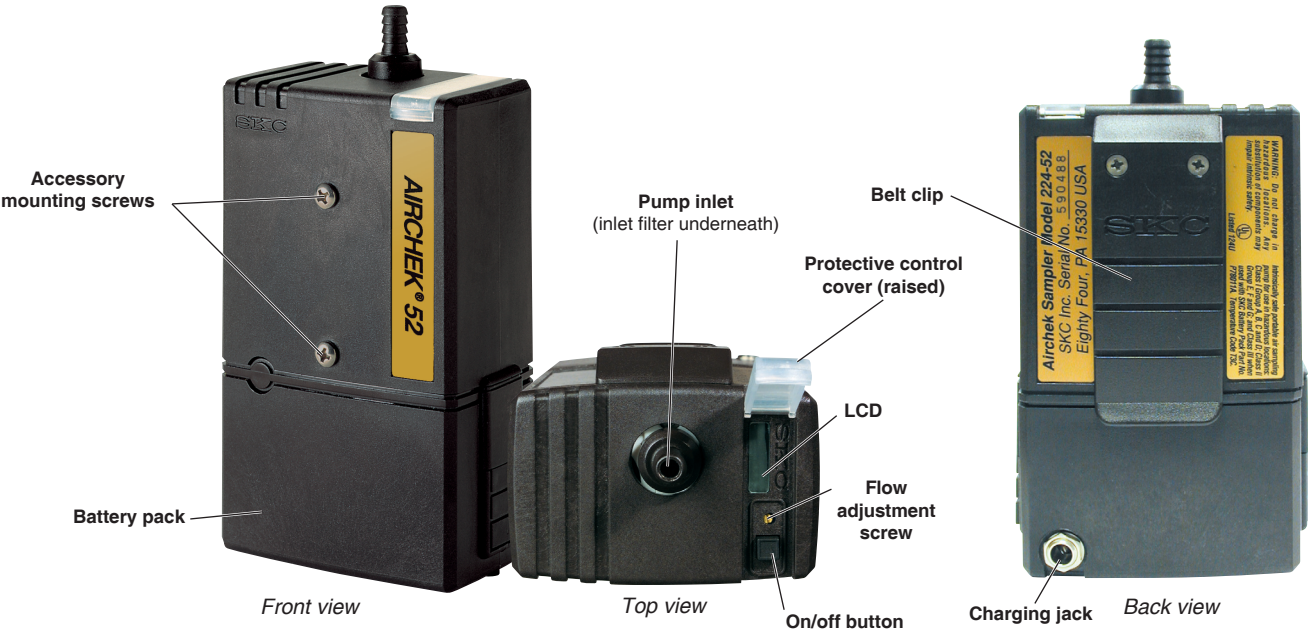

Figure 1. AirChek 52 Sample Pump
The AirChek 52 Sample Pump (Figure 1) is designed for rugged industrial use at flows from 5 to 3000 ml/min. Ideal for on-worker applications, use the AirChek 52 for short-term or full-shift sampling with sorbent tubes, impingers, cyclones, PPIs, or filter cassettes.
3. Insert the charging plug end of the cable into the jack on the back of the pump's battery pack (Figure 1).
4. Using a screwdriver, set the pump flow rate by turning the flow adjustment screw on top of the pump (*Figure 1*), **clockwise** to increase or **counterclockwise** to decrease flow, until the calibrator indicates the method-specified flow rate. Take a minimum of three readings and record the average flow rate, as per OSHA/NIOSH instructions.
- b. For **sampling with an impinger**, mount the single or dual impinger and trap (SKC Cat. No. 225-20-01 or 225-20-02) to the face of the sampler using the accessory mounting screws (*Figure 1*) or place them in a holster at the worker's waist.
3. Set the pump flow rate to 1.5 L/min. Using a small screwdriver, turn the flow adjustment screw on top of the pump (Figure 1), **clockwise** to increase flow or **counterclockwise** to decrease flow, until the calibrator indicates 1.5 L/min.